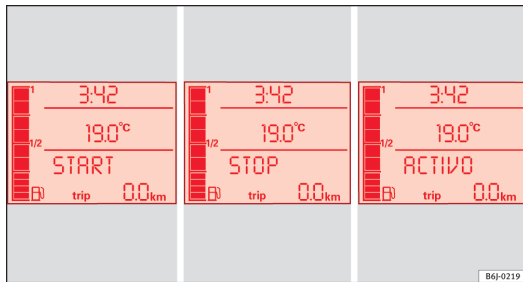

Fig. 101 Display on the instrument panel during Start-Stop function operation.
- The instrument panel screen displays information about the status of the Start-Stop function ⇒ fig. 101. ▶